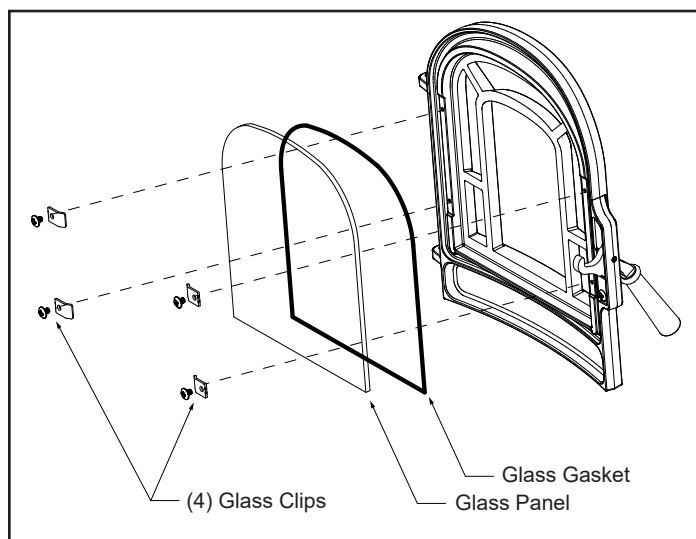

Figure 3.1 - Door glass installation.
2. Secure the glass with the retainer clips. Tighten all screws, Figure 3.1.